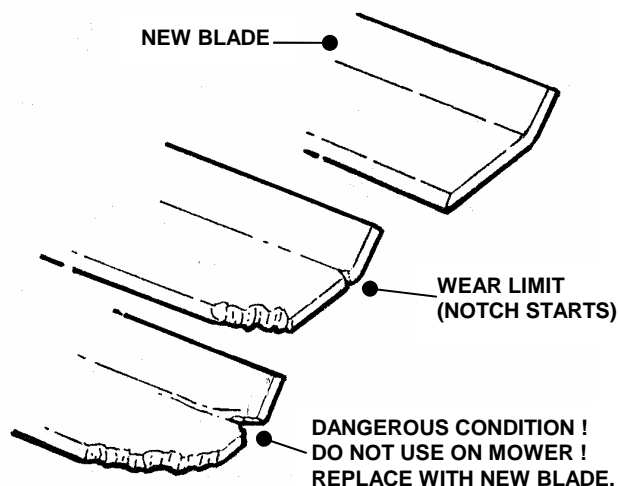

FIGURE 4.1
1. Inspect blade frequently for signs of excessive wear or damage. See Figure 4.1.